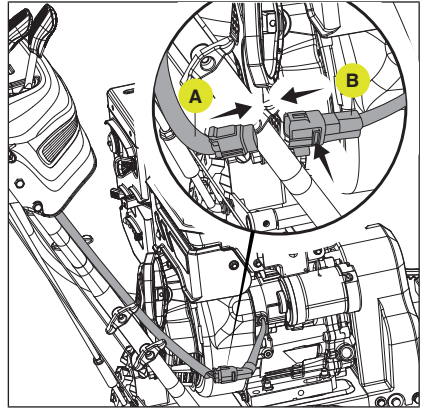

Figure 9
Locate engine and panel wire harness. Connect the wire harness by aligning the plug from the panel (A) with the engine harness (B). The harness will make an audible “click.” Press the lock in (the red arrow), then perform a pull test to confirm locked together. (Fig. 9)